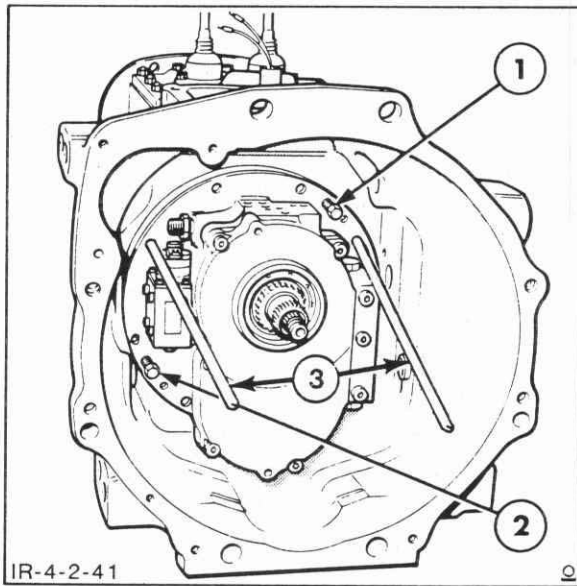

Figure 4-134
5. Remove the distributor housing retaining bolts. Install two aligning rods (OTC FNH00024). Obtain two M8 (1.25 thread) jacking bolts, approximately 1.25" (30 mm) long. Screw the bolts into the housing as shown in Figure 4-134, then continue to tighten until the distributor housing is freed from the transmission case. Use the aligning rods to help support the weight. Lift the housing from the transmission and remove the jacking bolts.
3. Install the oil distributor housing using the two aligning rods FNH00224, onto the transmission casing, Figure 4-134, and secure with the retaining bolts. Exercise care when installing the oil distributor to prevent the sealing rings on the front input shaft from being damaged or dislodged. If the P.T.O. shaft splines do not align with the hydraulic pump inner rotor, turn the shaft at the rear axle to align them. Tighten the retaining bolts to 35-41 ft. lbs.